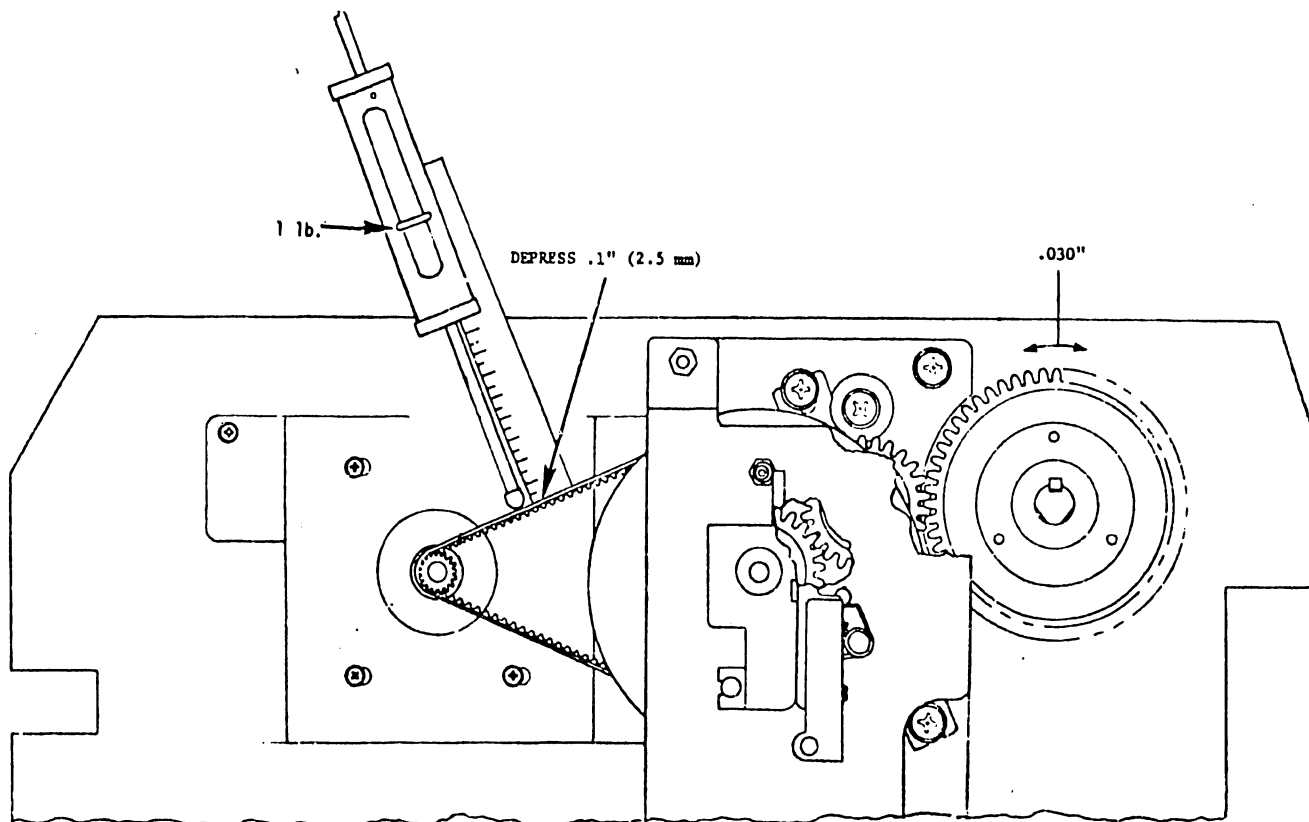

FIGURE 5-21 PAPER MOVEMENT ADJUSTMENT
- 1) Check paper sprocket drive gear for maximum backlash of .030" (.076 cm), holding vertical format unit gear immobile (Figure 5-21).
- 2) Stepping Motor Timing Belt with the belt depressed .1" (.25 cm), the scale should read 1 lb (453 grams). (Figure 5-21.)